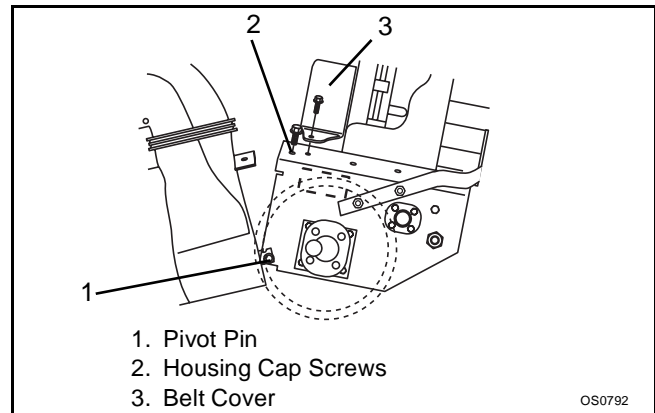

Figure 7
2. Remove belt cover (Figure 7).
7. Remove cap screws securing housing to frame (one on each side). Tip housing and frame apart on pivot pins (Figure 7).